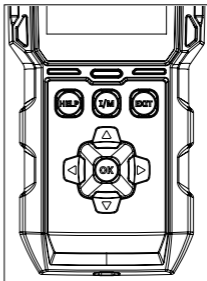

Figure 3.4.2
- To perform the I/M Readiness function, you can also press the I/M shortcut button. (See Figure 3.4.2)